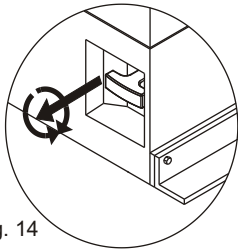

Fig. 14
- grab the handle of the release and pull outward winning the resistance of the inner spring (Fig. 14)